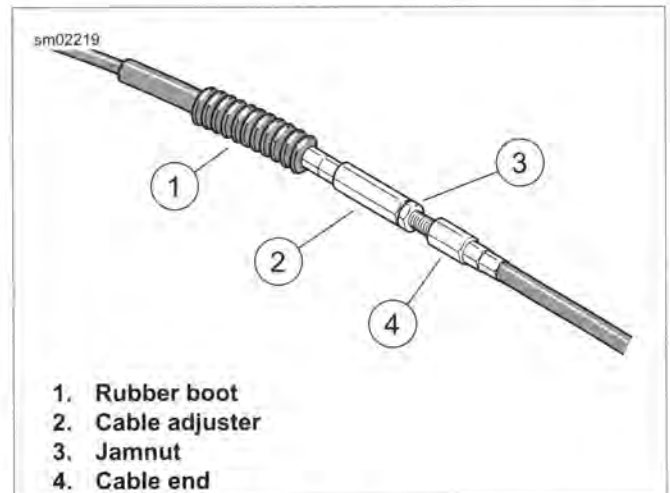
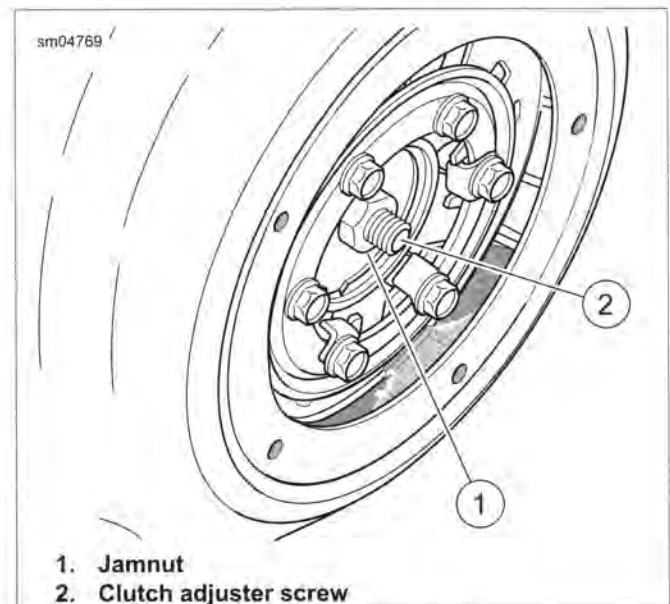
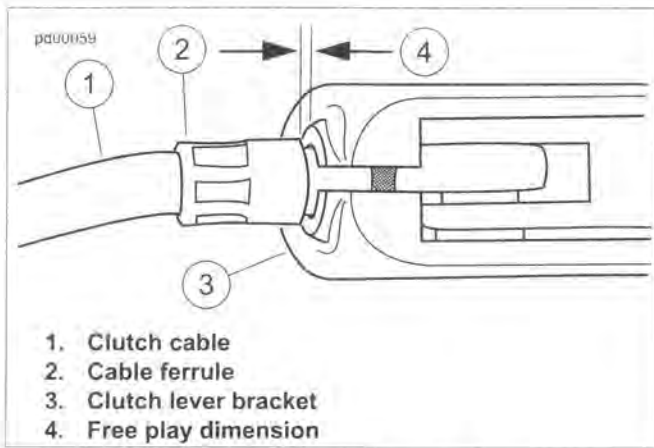

Figure 1-19. Clutch Cable Adjuster
Figure 1-20. Clutch Adjuster Screw
Figure 1-21. Clutch Cable Free Play
5. See Figure 1-19. Add free play to cable.
- a. Slide rubber boot (1) off cable adjuster.
- b. Loosen jamnut (3) and back away from cable adjuster.
- c. Turn adjuster (2) to introduce a large amount of free play at hand lever.
6. See Figure 1-20. Loosen jamnut (1) on clutch adjuster screw. Turn adjuster screw (2) inward (clockwise) until lightly seated.
9. See Figure 1-19. Check free play.
- a. Turn cable adjuster (2) until slack is eliminated at hand lever.
- b. See Figure 1-21. Pull clutch cable ferrule (2) away from clutch lever bracket to check free play. Turn cable adjuster to obtain free play (4). Refer to table Table 1-11.
10. See Figure 1-19. Hold adjuster and tighten jamnut to 120 **in-lbs** (13.6 Nm). Cover cable adjuster mechanism with rubber boot.